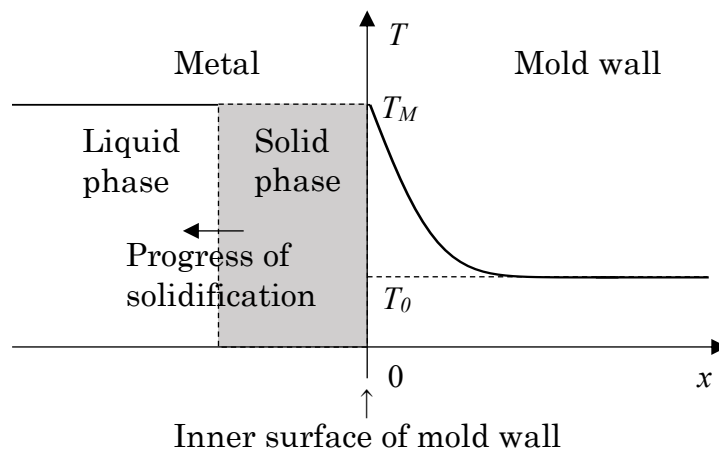

Figure 2 Temperature distribution in the cross section of the mold at  $t$  (s).
- (1) Show that equation ① satisfies one-dimensional equation of non-steady state heat conduction.
- (2) Show the quantity of the heat flux,  $q$  ( $\text{J}\cdot\text{m}^{-2}\cdot\text{s}^{-1}$ ), flowing into the mold wall through the inner surface of the mold wall using the necessary terms from  $T_M$ ,  $T_0$ ,  $t$ ,  $\alpha$ ,  $\rho$ ,  $c$ ,  $L_M$ , and  $V_M$ .
- (3) When the planer solid/liquid interface moves left in Figure 2 during solidification, the latent heat generated by solidification is assumed to be immediately released into the mold wall through the inner surface of the mold wall. Show the position of the solid/liquid interface from the inner surface of the mold wall using the necessary terms from  $T_M$ ,  $T_0$ ,  $t$ ,  $\alpha$ ,  $\rho$ ,  $c$ ,  $L_M$ , and  $V_M$ .